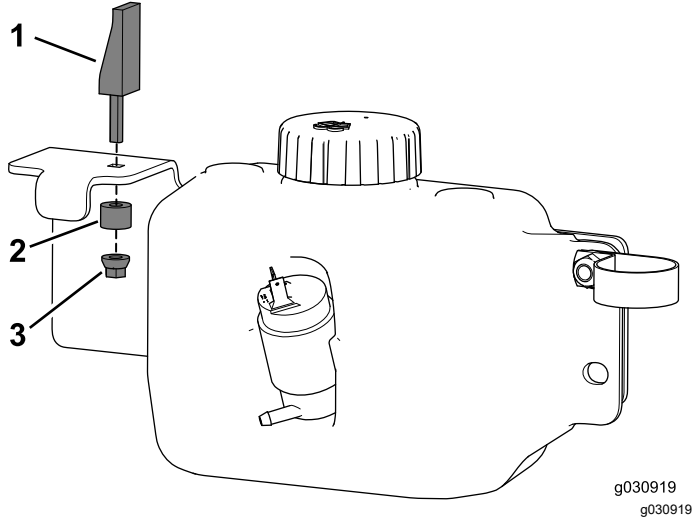

Figure 45
4. Install the swell-latch assembly to the tank mount (Figure 45).